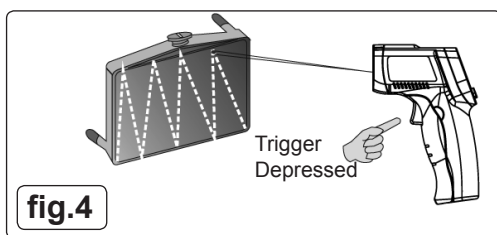

fig.4
- 4.5 To locate a hot spot on a large surface, aim the thermometer as in 4.4, then scan across the area with a controlled uniform "zig-zag" sweep until you locate the spot, as illustrated in fig 4.